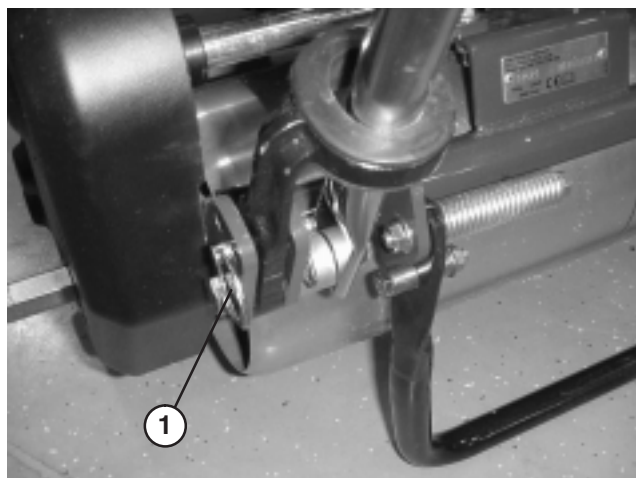

Figure 5
1. Remove hairpin cotters from ring pins on each side of mower (Fig. 5).
2. While supporting handle, remove ring pins from each side and raise or lower handle to desired operating position (Fig. 5).